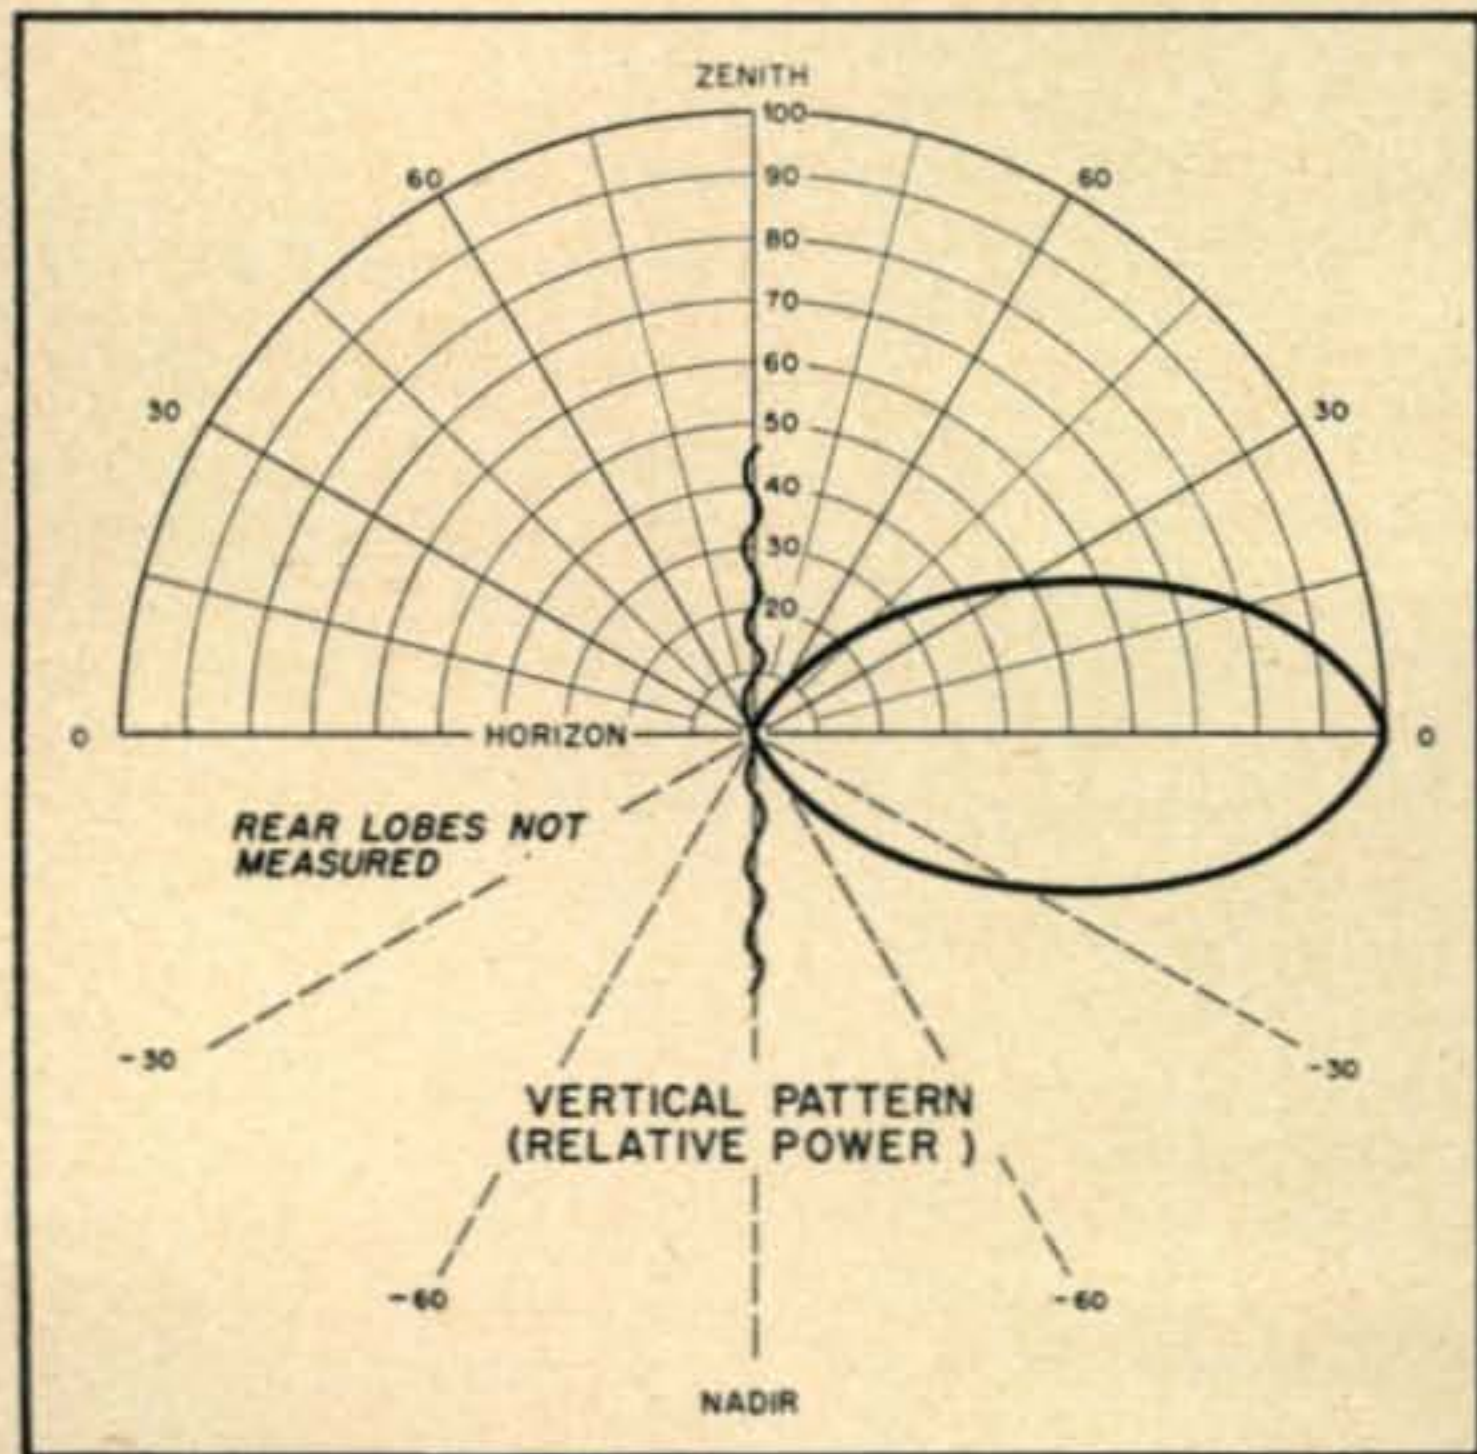

Fig. 3. The radiation pattern in a vertical plane, illustrating the low angle of radiation attainable with the Zig-Zag array.
11.5 db. The measured vertical and horizontal patterns are shown in Figs. 3 and 5. The horizontally-polarized radiation is too weak to be indicated on the same pattern scale with the vertical pattern. The antenna can, of course, be used on horizontal polarization by rotating the mounting 90°.